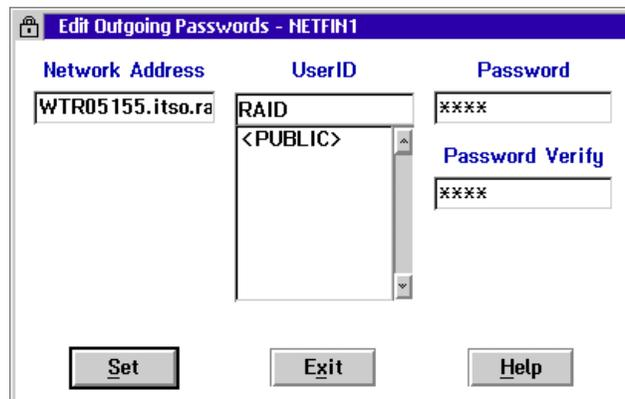

Figure 44. Defining Outgoing Passwords
3. Double-click **Edit/Display Outgoing Passwords**, then click **Add**. Figure 44 appears: